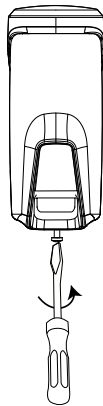
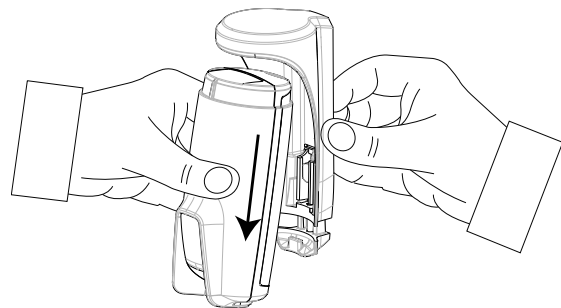

Figure 12: Unscrewing the bracket screw
Figure 13: Removing the detector from bracket
1. Unscrew the bottom screw of the bracket and remove the detector. See Figure 12 and Figure 13.